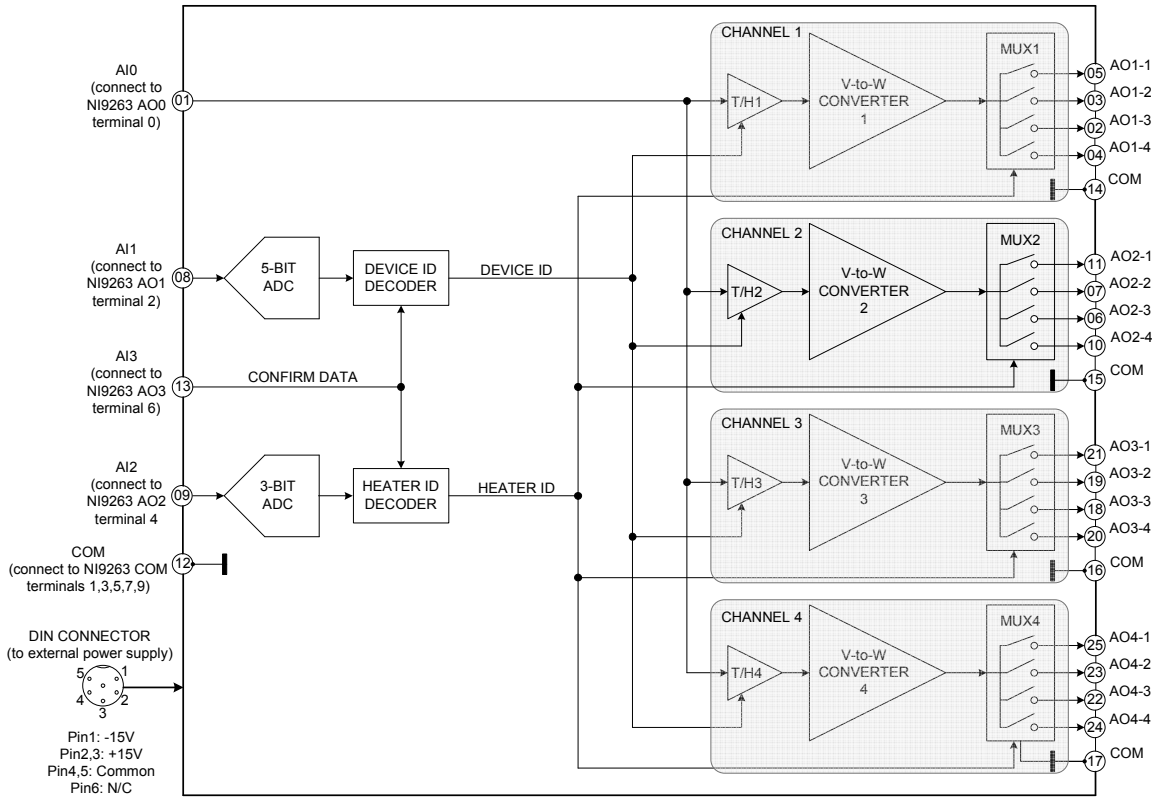
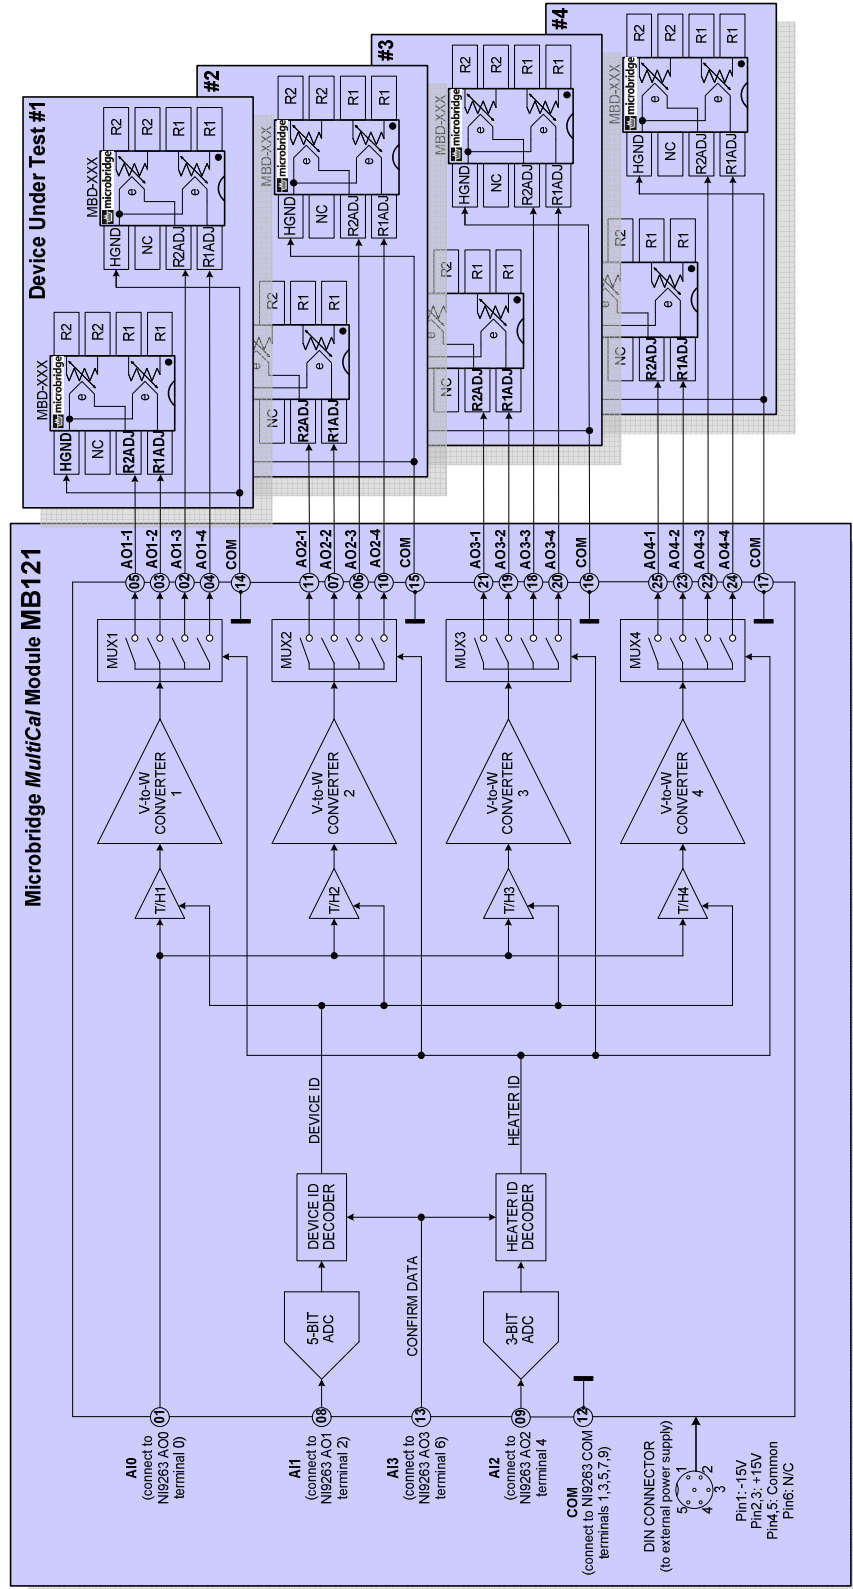

Figure 2: Functional Block Diagram for One MB-121 Module
Figure 3: Connecting MB-121 to four DUTs (each DUT includes four MBD series Rejustrors in two SOIC packages)
The functional block diagram of the MB-121 is shown in Figure 2. There are four power channels inside each MB-12x Power module. Each channel within the module includes a track-and-hold amplifier (T/H) and a power amplifier (V-to-W) which outputs power proportional to input voltage. Each power channel has four analog outputs (AO) addressable by means of the 4-channel multiplexer (MUX). The power channels deliver the analog adjustment pulses to up-to four Rejutors. During the calibration process each power channel of the MB-12x is assigned to an individual DUT, hence making it possible to control from one to four user circuits simultaneously. Each user circuit in turn, may carry up to four individual Rejutors which can be selected by means of the 4-channel MUX. For example, if an op-amp’s gain can be calculated as $Gain=1+Rj1/Rj2$, then two Rejutors (Rj1 and Rj2) are needed to adjust the gain to the target. Note; in this case leave the two unused analog outputs floating. Figure 3 shows an example of a “fully loaded” MB-121 – all sixteen analog outputs (AO) are used in the calibration process of four user-selected devices, each containing two MBD-series Rejutor dividers.